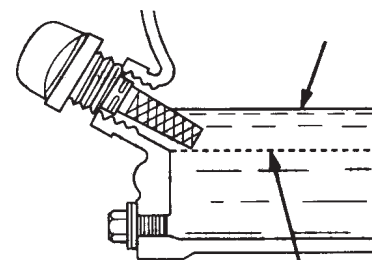

Figure 4. Engine Oil Dipstick (Oil Level)
4. If the oil level is low (Figure 4), fill to the edge of the oil filler hole with the recommended oil type (Table 1). Maximum oil capacity is .079 gallons (0.3 liters)